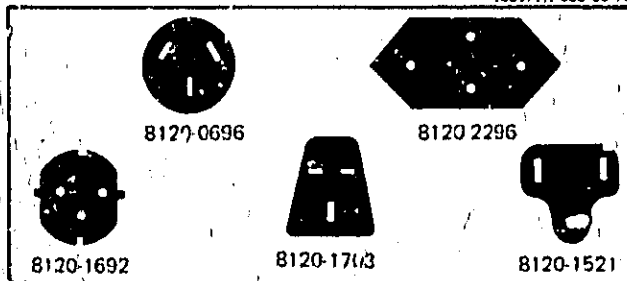

Figure 2-1. Power Receptacle
2-7. **POWER REQUIREMENTS.** The power cord required depends on, (1) the ac input voltage, and (2) the country in which the instrument is to be used. Figure 2-1 illustrates the standard power receptacle (wall outlet) configurations that are used throughout the United States and in other countries. The HP part number shown directly above each receptacle drawing is the part number for a power cable equipped with the appropriate mating plug for that receptacle. If